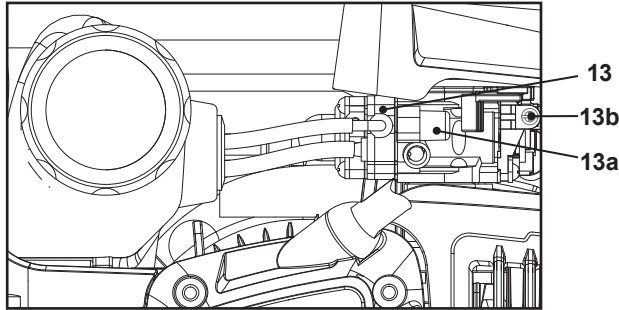

Fig. 17
**WARNING!** Before use, check whether the drilling tool rotates at idle speed. If it does, adjust the adjusting screw (13b) on the carburetor (13a) anticlockwise until the drill bit does not rotate at idle speed (Fig. 17); If the drilling tool will continue to rotate even after the idle speed is lowered, it is necessary to contact the maintenance point for maintenance.